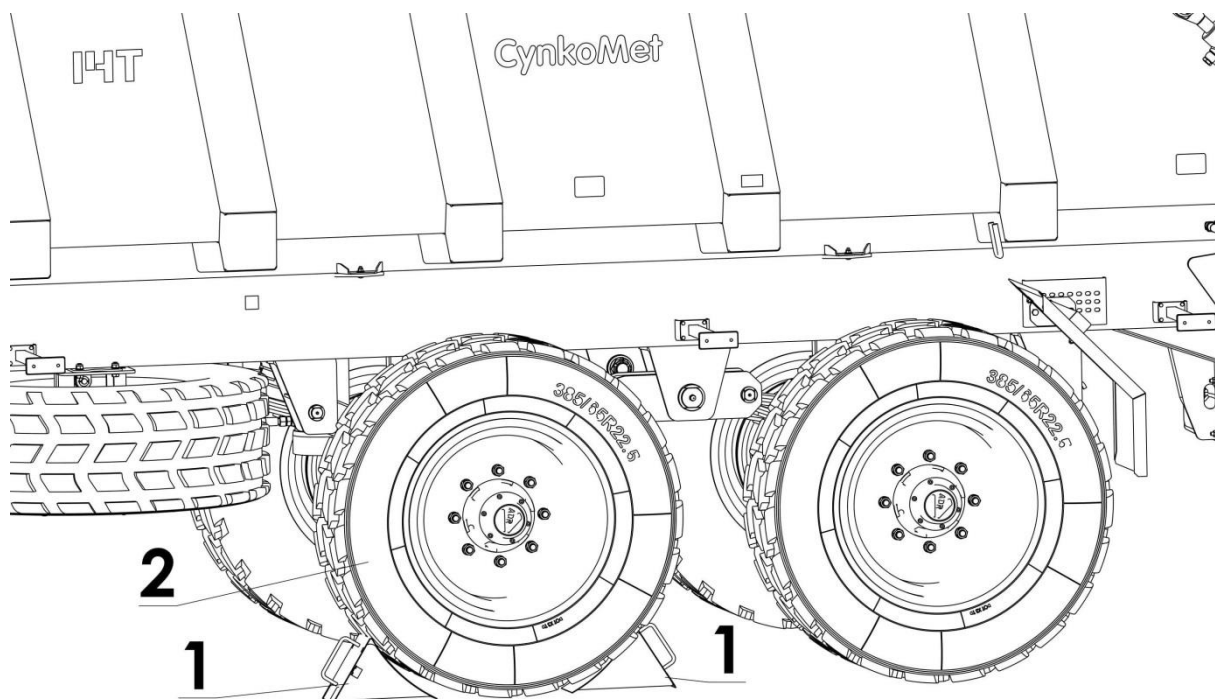

Figure 3. The way of placing the chocks.
- It is forbidden to park on the slopes with a loaded and unsecured machine. Securing is based on stopping with the service brake, parking brake and planting chocks under the wheels. The chocks (1) should be planted only under one wheel (2) (one front wheel and one on the back - Fig. 3).